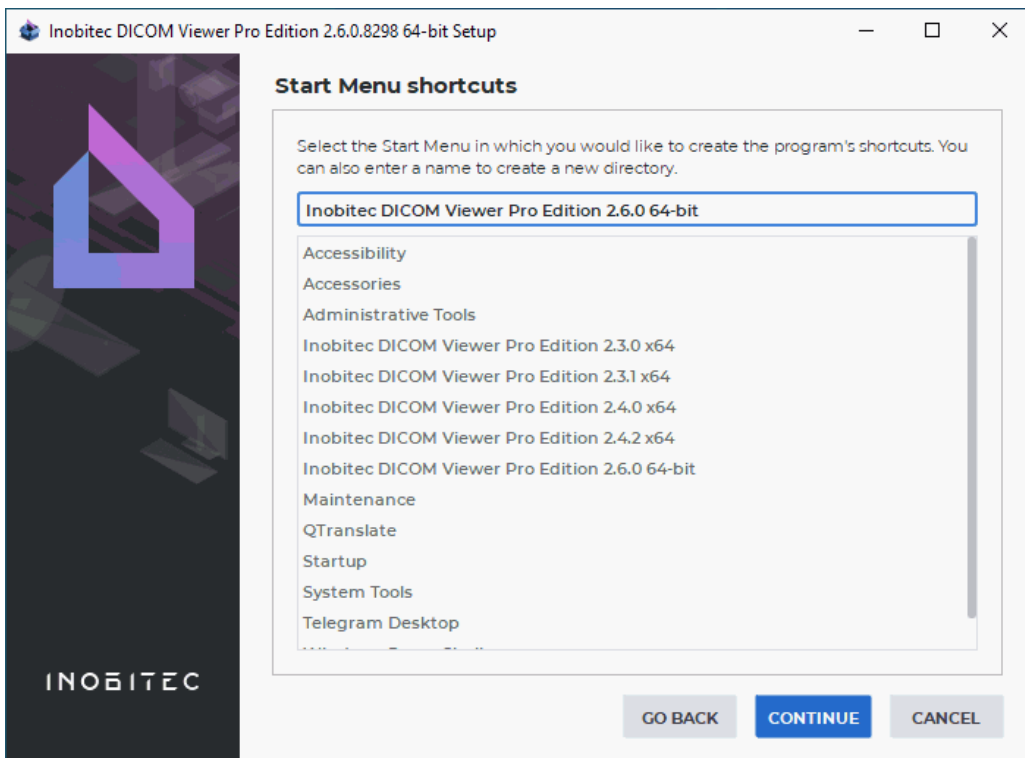

Figure 9: Start Menu Shortcuts
11. If necessary, change the folder for the program's shortcuts in the **Start** menu (Fig. 9). We recommend leaving the default value. Click **CONTINUE**.